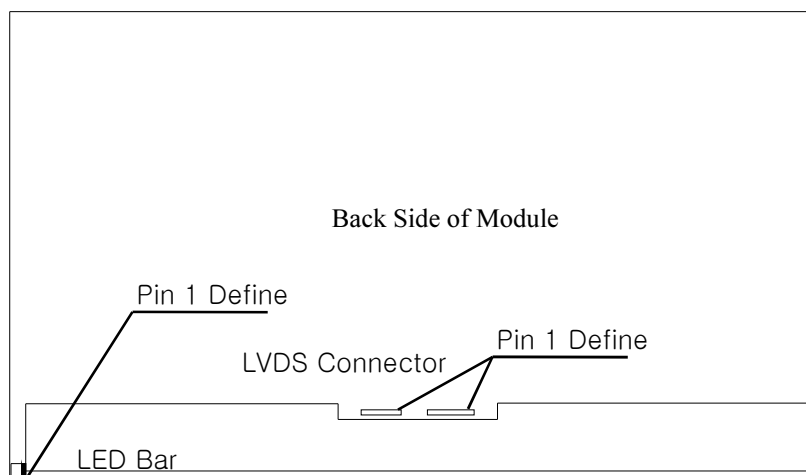

Figure2. Back Side of Module
3. Center Luminance of white is defined as the LCD surface. Luminance shall be measured with all pixels in the view field set first to white. This measurement shall be taken at the locations shown in FIGURE 2 for a total of the measurements per display.
(See FIGURE 2 shown in Appendix).